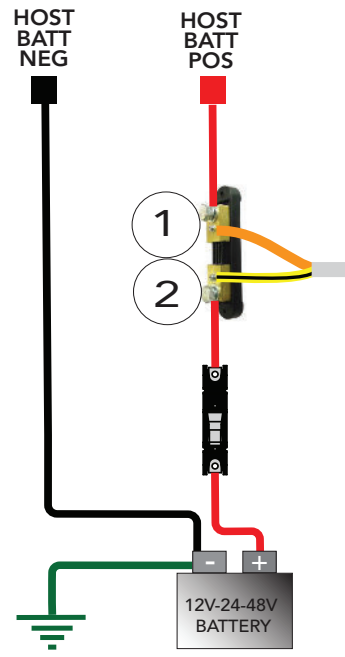

Figure 5-2. Positive Leg Shunt
If installing the shunt on an ungrounded conductor (see Figure 5-2 below), install a fuse or breaker to protect the circuit from a short between the shunt terminals and grounded equipment.
B. Positive Leg Installation (see Figure 5-2 below). For a system with a shunt(s) in the positive leg, connect the yellow/black stripe (twisted-pair) wire to the battery side of the shunt, and then connect the other end to the A(2) or B(2) ReadyShunt terminal.